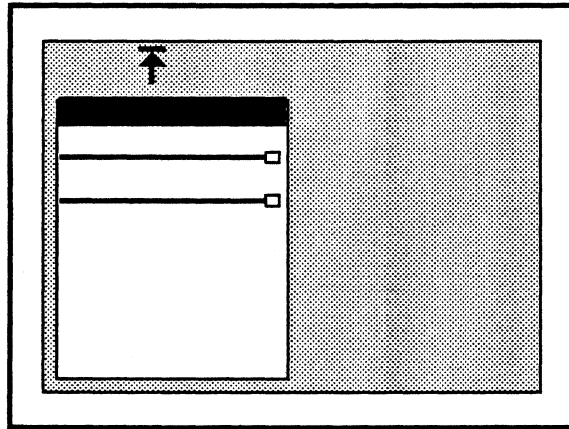

Figure 3.19
- 3) Move the cursor across the border you want to stretch. As you move the cursor across the window's border, the cursor changes shape to show you that the system will drag that border. When the arrow points up, the upper border stretches. When the arrow points down, the lower border stretches. When the arrow points to the left, the left border stretches, and when it points to the right the right border stretches. The line to which the arrow points marks the new window border. See figure 3.19.